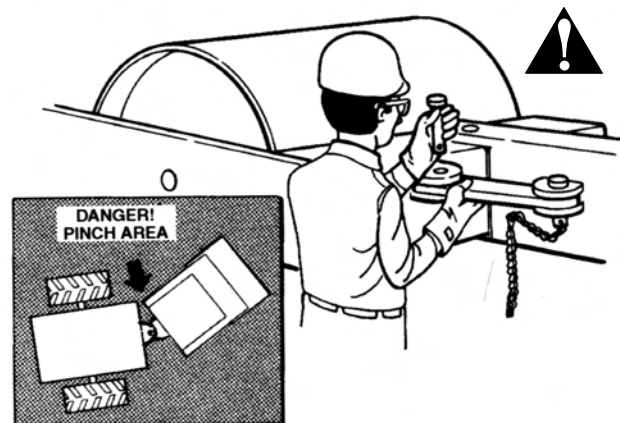

FIG. 33
- Before working in the pivot or “pinch” area of an articulated machine, securely attach the steering frame lock to prevent the machine from turning. (FIG. 33) Enter this area only when necessary.